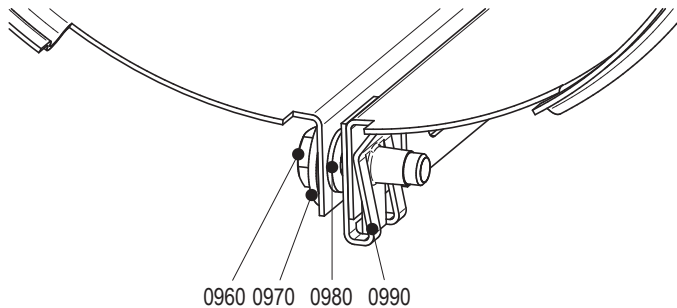

Figure 10: Fitting jacket.
- 1 Loosen bolts (0960). See figure 10.
- 3 Close the jacket and fit bolt (0960). See figure 10.
- 5 Close the jacket and fit a bolt (0230) and fit bolt (0960). See figure 10.